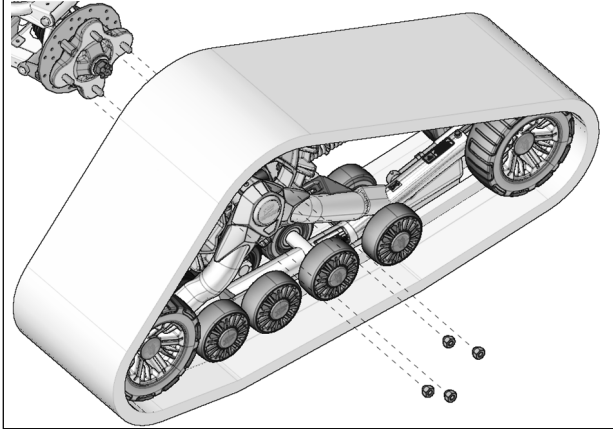

Fig. 11
10. Secure undercarriage to rear hub using the vehicle's wheel nuts. See Fig. 11
- Using the vehicle's wheel nuts, secure undercarriages to the front wheel hubs. The procedure and precautions are the same as for rear units. Refer to Fig. 11